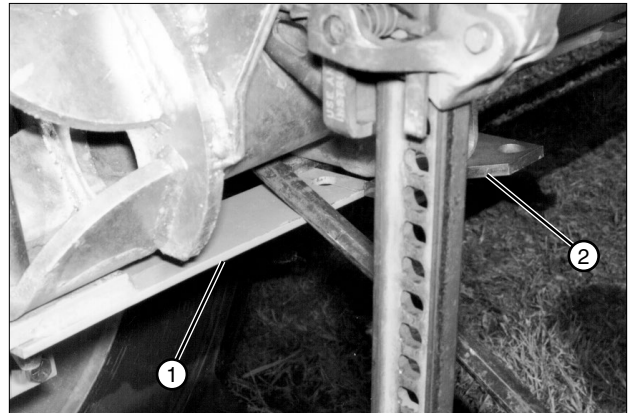

Figure 31-2 1. Steering Arm 2. Latch Plate
6. Using a pry bar, push down on the gearbox mount steering arm to release it from the latch plate while pushing the tire toward the tow position until steering arm is out of latch plate. See figure 31-2.